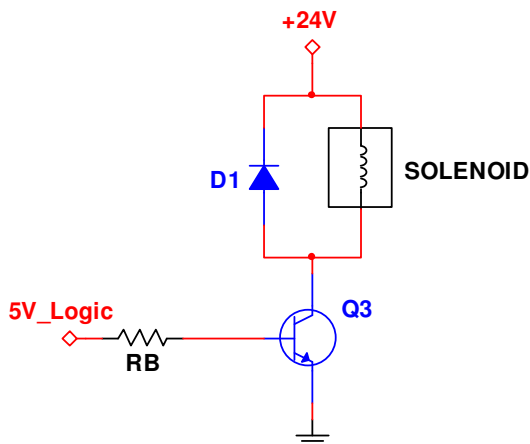

Fig. 3
3) Solenoids are a common actuator found in pneumatic valves, automated door locks, etc. When a DC voltage is applied to a solenoid, the resulting current only depends on the coil resistance. Consider the solenoid driver shown in Fig. 3. The design constraints are shown below: